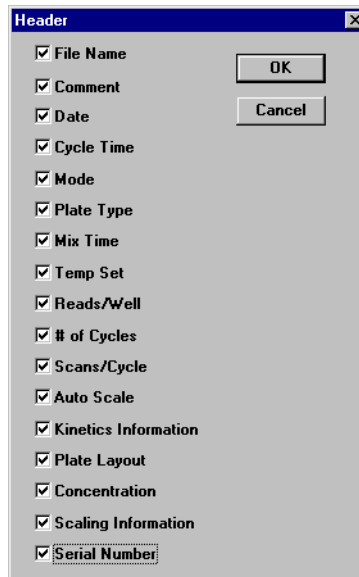

Figure 4-22 Header Dialog Box
1. In the Export Setup dialog box, click the button to the right of **Header**. The Header dialog box appears (Figure 4-22).
2. Select the parameters to appear in the header. An example of a header with all parameters selected is shown in Figure 4-22.